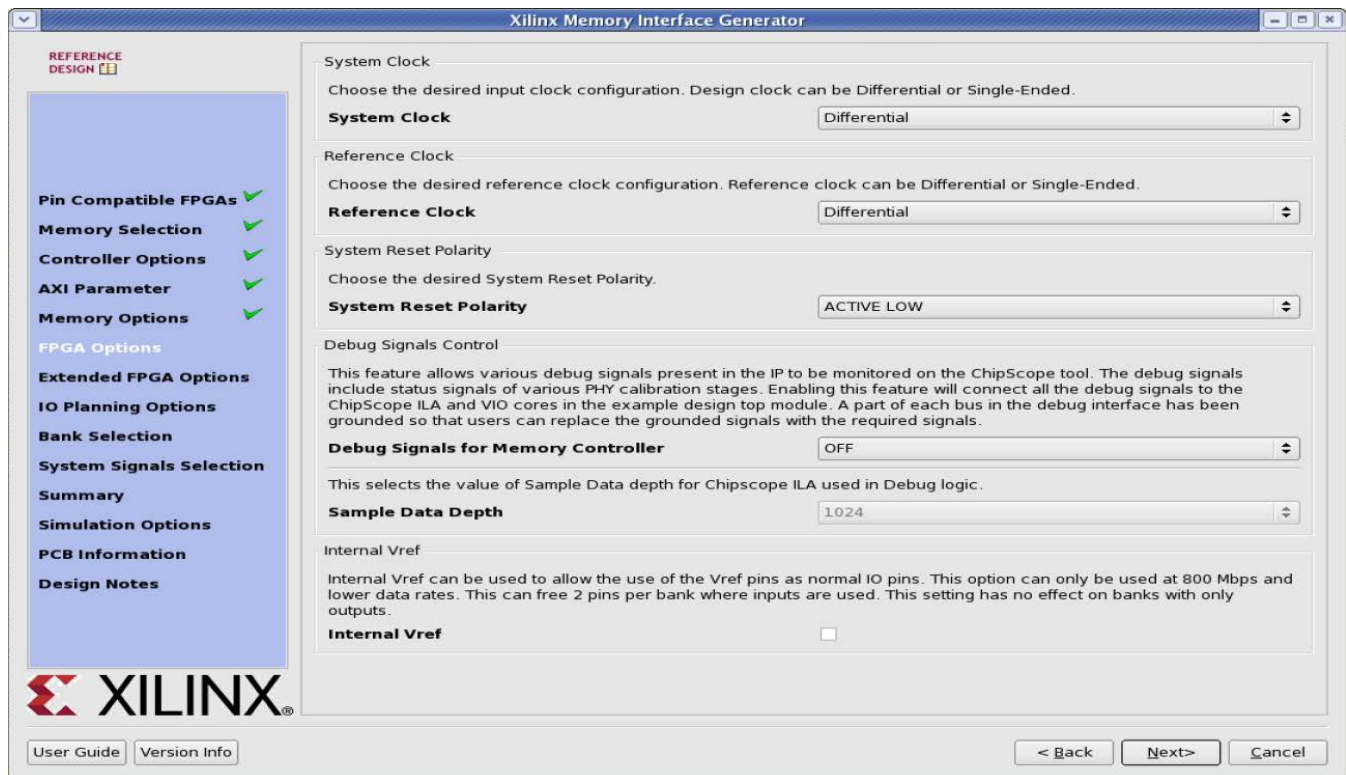

Figure 2-21: FPGA Options Page
Figure 2-21 shows the FPGA Options page.
- **sys\_clk** – This is the system clock input for the memory interface and is typically connected to a low-jitter external clock source. Either a single input or a differential pair can be selected based on the **System Clock** selection in the **FPGA Options** page (Figure 2-21). The sys\_clk input must be in the same column as the memory interface. If this pin is connected in the same banks as the memory interface, the MIG tool selects an I/O standard compatible with the interface, such as DIFF\_HSTL\_I or HSTL\_I. If sys\_clk is not connected in a memory interface bank, the MIG tool selects an appropriate standard such as LVCMOS18 or LVDS. The XDC can be modified as desired after generation.
A single input or a differential pair can be selected based on the **System Clock** selection in the **FPGA Options** page (Figure 2-21). The I/O standard is selected in a similar way as `sys_clk` above.
- **sys\_rst** – This is the system reset input that can be generated internally or driven from a pin. The MIG tool selects an appropriate I/O standard for the input such as LVCMOS18 and LVCMOS25 for HP and HR banks, respectively. Default polarity of `sys_rst` pin is active-Low. Polarity of `sys_rst` pin varies based on "System Reset Polarity" option chosen in **FPGA Options** page (Figure 2-21).